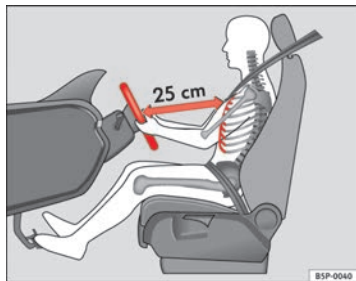

Fig. 1 The proper distance between driver and steering wheel
- Adjust the steering wheel so that there is a distance of at least 25 cm between the steering wheel and the centre of your chest ⇒ fig. 1.
<ul style="list-style-type: none"> ● An incorrect sitting position of the driver can lead to severe injuries. ● Adjust the driver seat so that there is at least 25 cm distance between the centre of the chest and the centre of the steering wheel ⇒ page 10, fig. 1. If you are sitting closer than 25 cm, the airbag system cannot protect you properly. ● If your physical constitution prevents you from maintaining the minimum distance of 25 cm, contact a specialised workshop. The workshop will help you decide if special specific modifications are necessary. ● When driving, always hold the steering wheel with both hands on the outside of the ring at the 9 o'clock and 3 o'clock positions. This reduces the risk of injury when the driver airbag is triggered. ● Never hold the steering wheel at the 12 o'clock position, or in any other manner (e.g. in the centre of the steering wheel). In such cases, if the airbag is triggered, you may sustain injuries to the arms, hands and head. ● To reduce the risk of injury to the driver during sudden braking manoeuvres or an accident, never drive with the backrest tilted far back! The airbag system and seat belts can only provide optimal protection when the backrest is in an upright position and the driver is wearing his or her seat belt properly. The further the backrests are tilted to the rear, the greater the risk of injury due to incorrect positioning of the belt web or to the incorrect sitting position! ● Adjust the head restraint properly to achieve optimal protection. ■